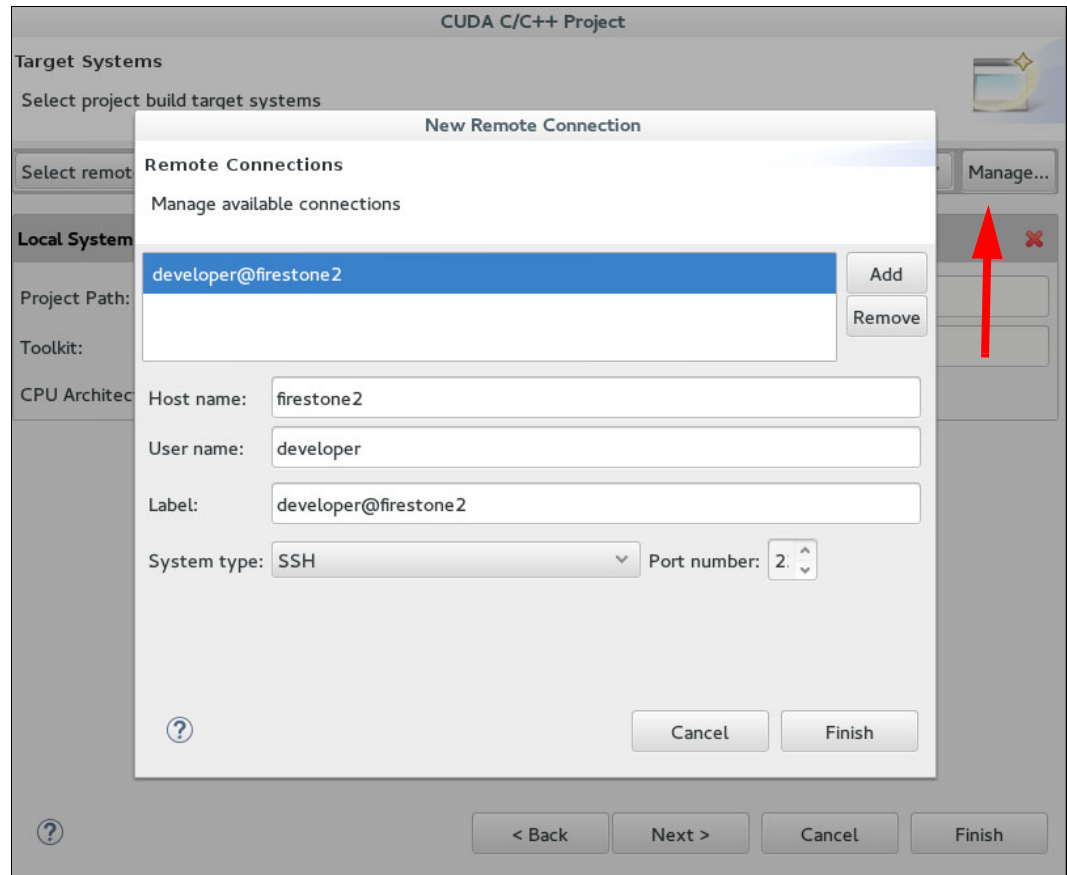

Figure 6-15 Nsight: New CUDA C/C++ project remote connection setup
4. Click **Manage** (as pointed out by the arrow in Figure 6-15) to configure a new connection to the remote machine.
5. As shown in Figure 6-15, fill in the connection information fields (host name, user name). Click **OK**.